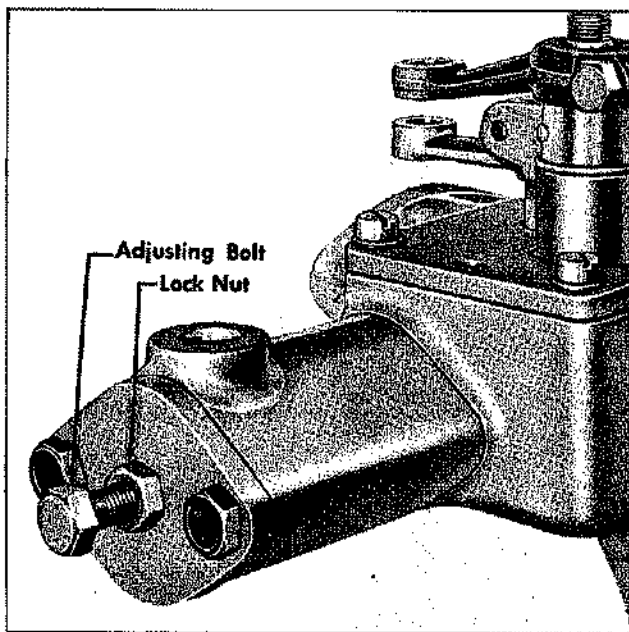

Figure 67—Reduced High Speed Adjustment
3. Loosen lock nut and turn adjusting bolt (fig. 67) as necessary to obtain proper reduced high speed RPM. Lock screw with nut when proper adjustment is obtained.
4. Should it be necessary to increase engine RPM turn adjusting bolt (fig. 67) in to increase, or out to decrease engine RPM.